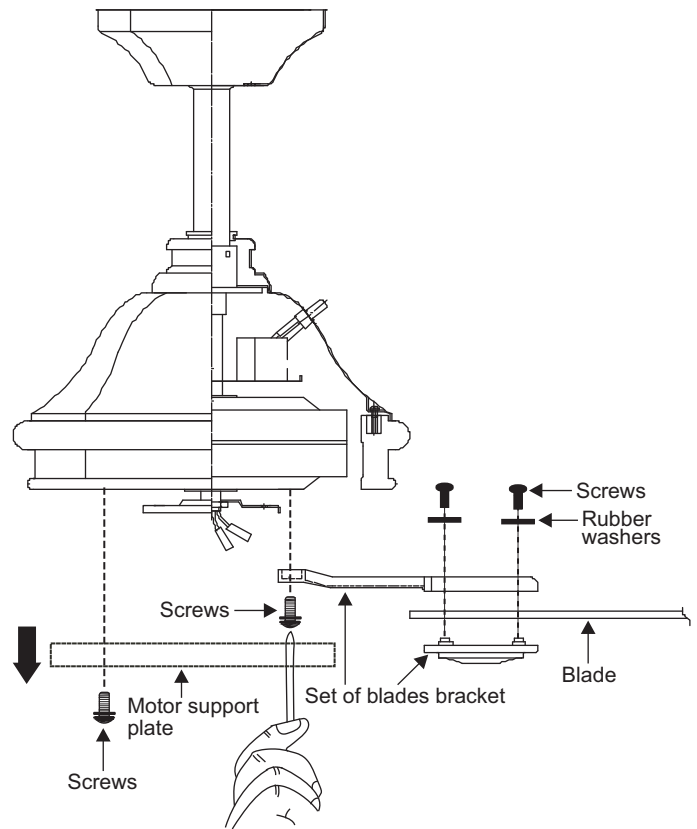

Figure 14
Step 1. Attach the blade to the blade bracket using the screws and rubber washers as shown in Figure 14. Start screw into bracket. Repeat for the two remaining screws.
Step 3. Fasten blade assembly to motor using the screws supplied. (Fig. 14)